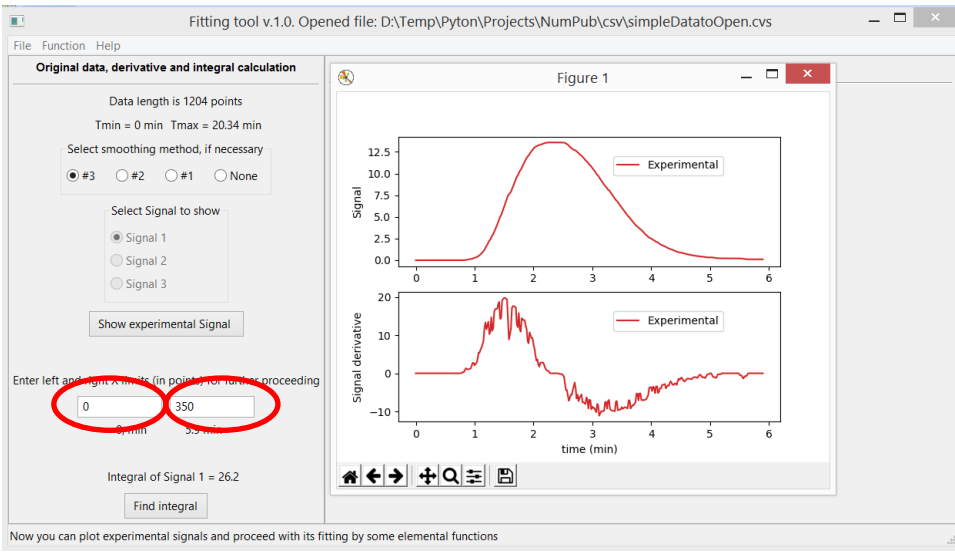

Fig. 5. Zoomed graph within the new time limits, corresponding to the entered left and right X limits.
Step 4. With help of 'left' and 'right' X limits, see Fig. 5, it is advised to focus on the part of the curve which is of interest. By default the 'left' limit is set to 0 and the 'right' limit is set to last point in the X
array. By pressing the same button 'Show experimental signal' zoomed graph will be displayed, see Fig. 5.
Step 5. The button 'Find integral' calculates and shows integral of the signal within the entered left and the right limits, as is shown in Fig. 5.